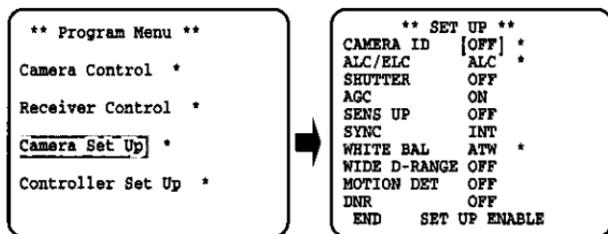

Fig. 16
- While pressing both the Left (◀) Switch and the Right (▶) Switch, press the Set Switch for a few seconds on the SET UP Menu as shown in Fig.16. At this time all adjustments and selections are being changed to the factory default settings.